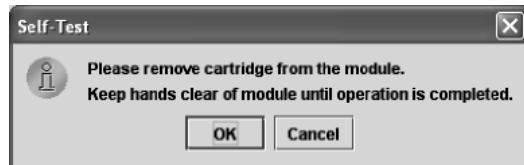

Figure 10-7. Self-Test dialog box
5. Click **Self-Test**. The Self-Test dialog box appears (Figure 10-7).